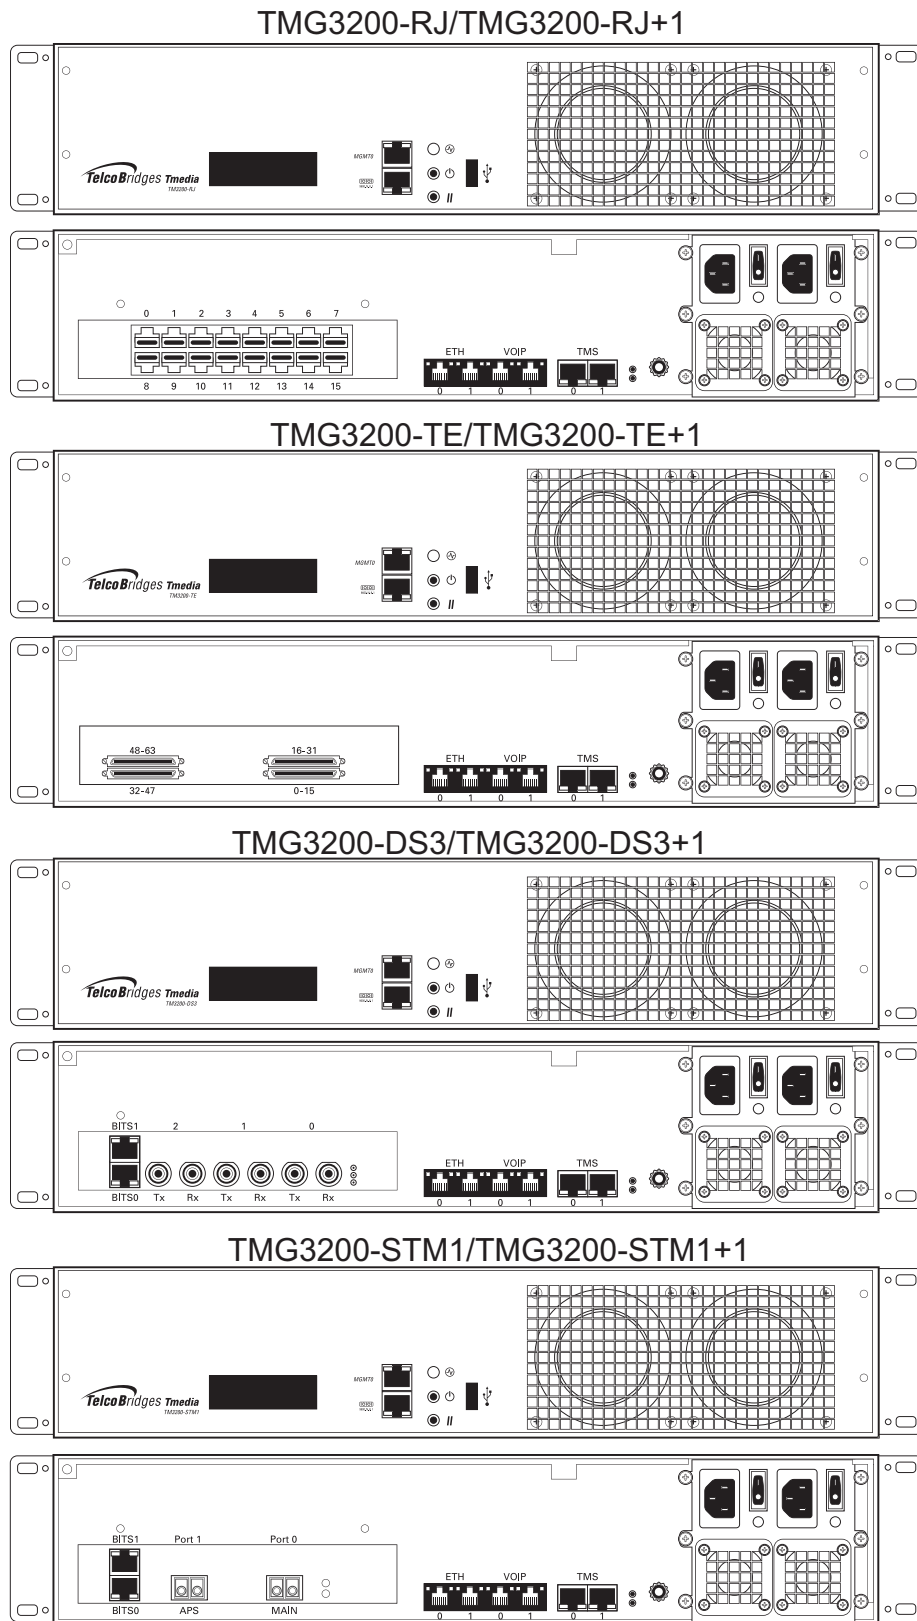
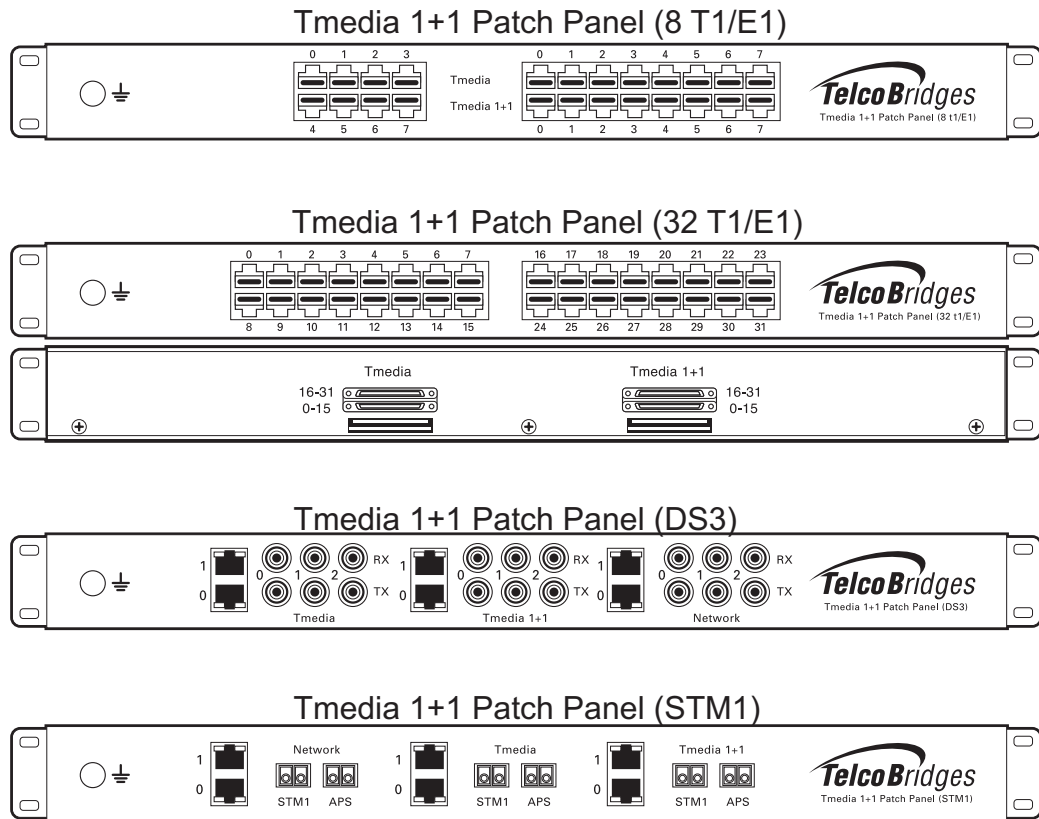

Figure 1.1 TMG3200 and TMG3200 +1 Front and Rear Views
Figure 1.2 1+1 Patch Panels
The Tmedia Standalone consists of one telecom unit, TMG3200. View the front and rear views of the TMG3200, as shown in figure 1.1 on page 3.
The Tmedia 1+1 system, see figure 1.1 on page 3 and figure 1.2 on page 4, consists of:
- One (1) TMG3200 unit (TMG3200-RJ, TMG3200-TE, TMG3200-DS3, or TMG3200-STM1). See figure 1.1 on page 3.
- One (1) set of mounting brackets and screws, used to mount the TMG3200 to a 19" rack.
- One (1) DB-9 to RJ-45 adapter to interface the serial port of your computer with the RJ-45 port of the TMG3200.
- Three (3) CAT5 Ethernet (blue) straight cables (male-male), 3 meters in length.
- One (1) Important Notice (two-sided document containing pertinent product serial numbers, and other important information).
- One (1) Product Warranty.
- One (1) packing slip.
- One (1) Quick Installation Guide (two-sided document that provides a pictorial view of the equipment setup).
- Two (2) AC or DC power cables
- One (1) TMG3200+1 unit (TMG3200-RJ, TMG3200-TE, TMG3200-DS3, or TMG3200-STM1). See figure 1.1 on page 3.